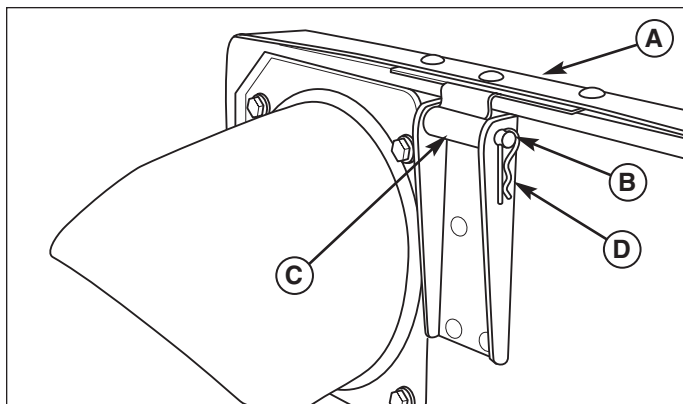

Figure 1. Remove the Cover
1. Remove the hair pin clips (D, Figure 1) and hinge pins (B) and remove the cover (A).